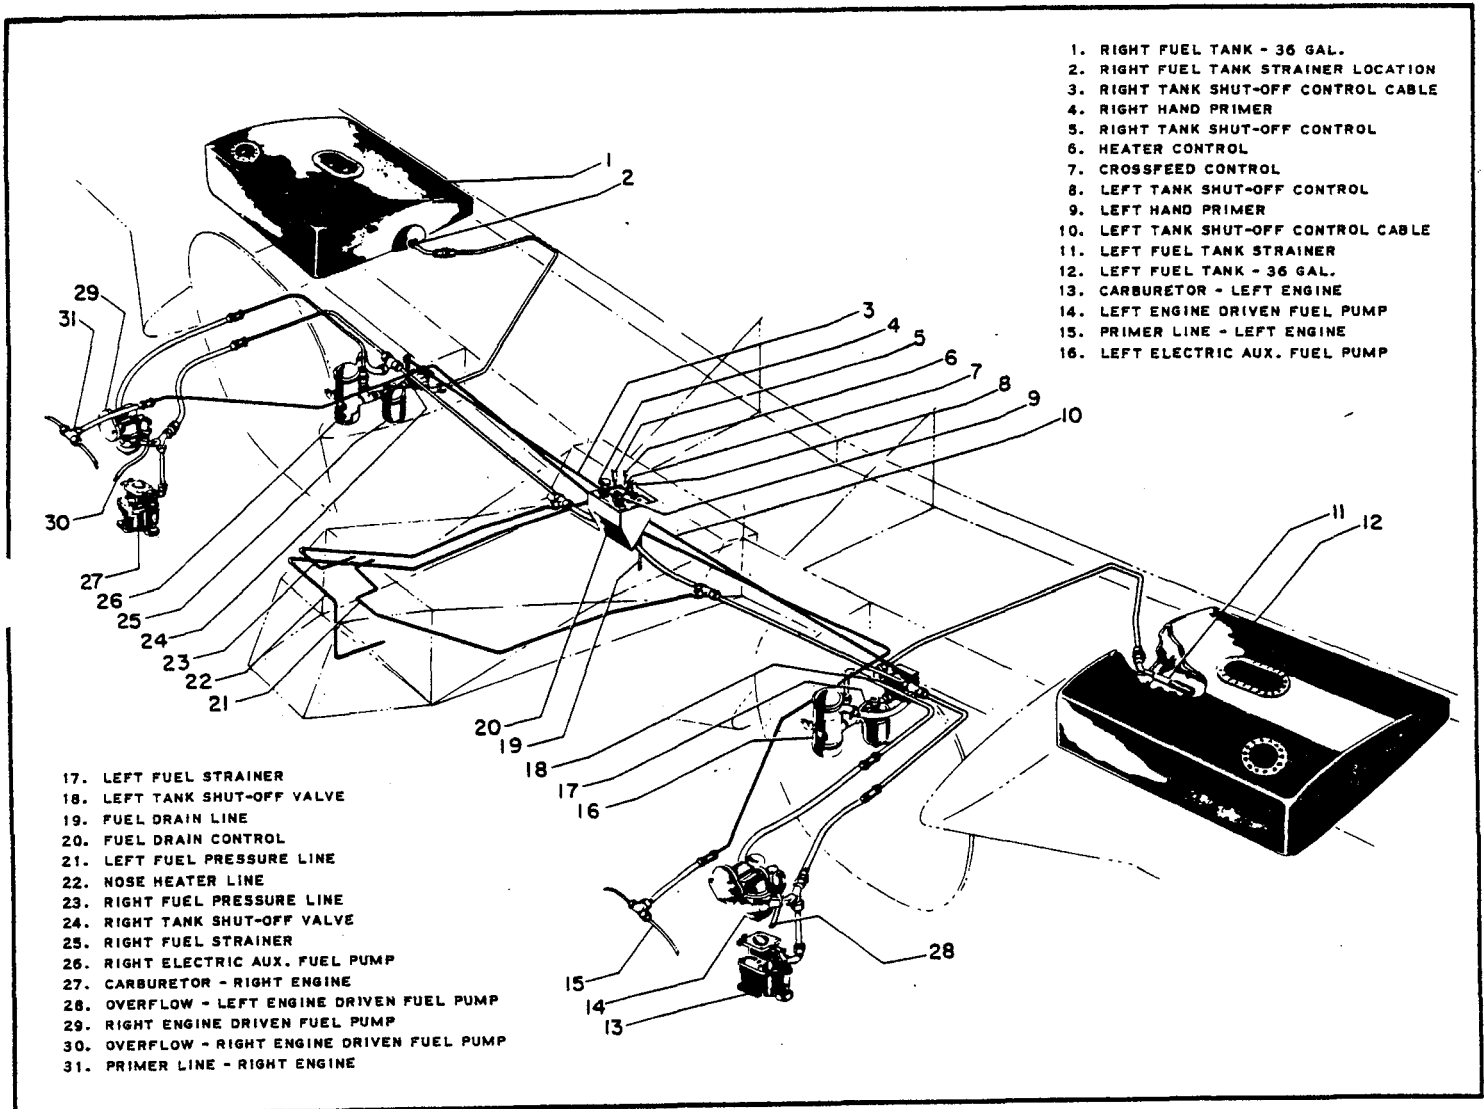
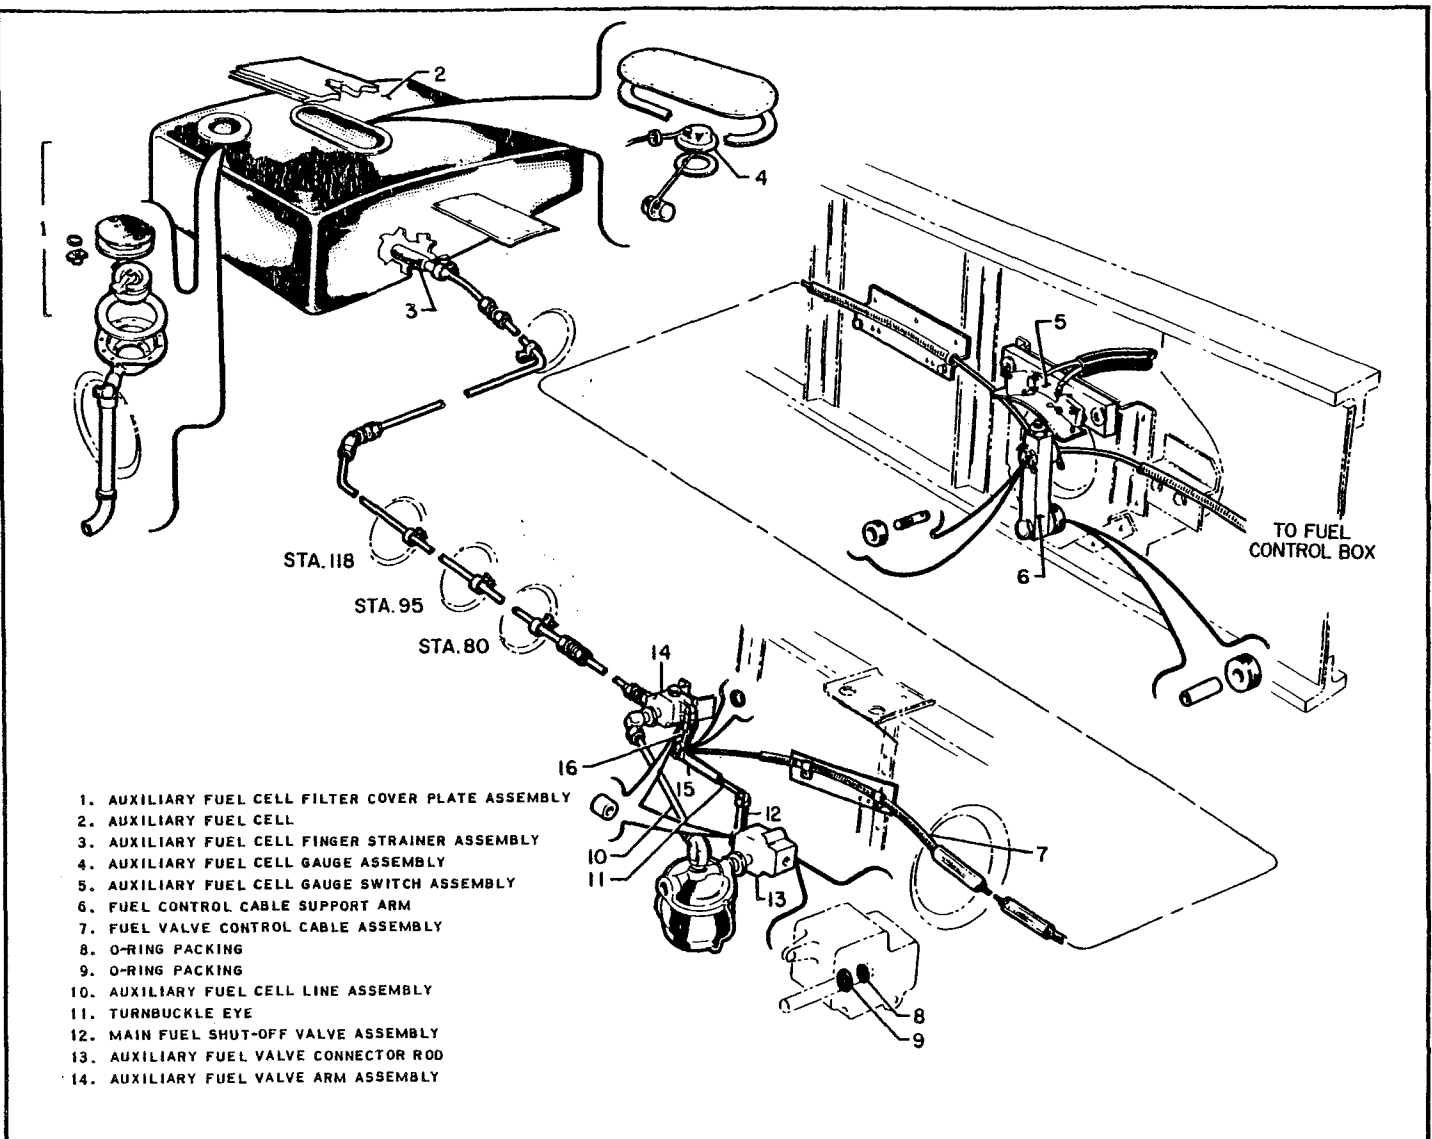
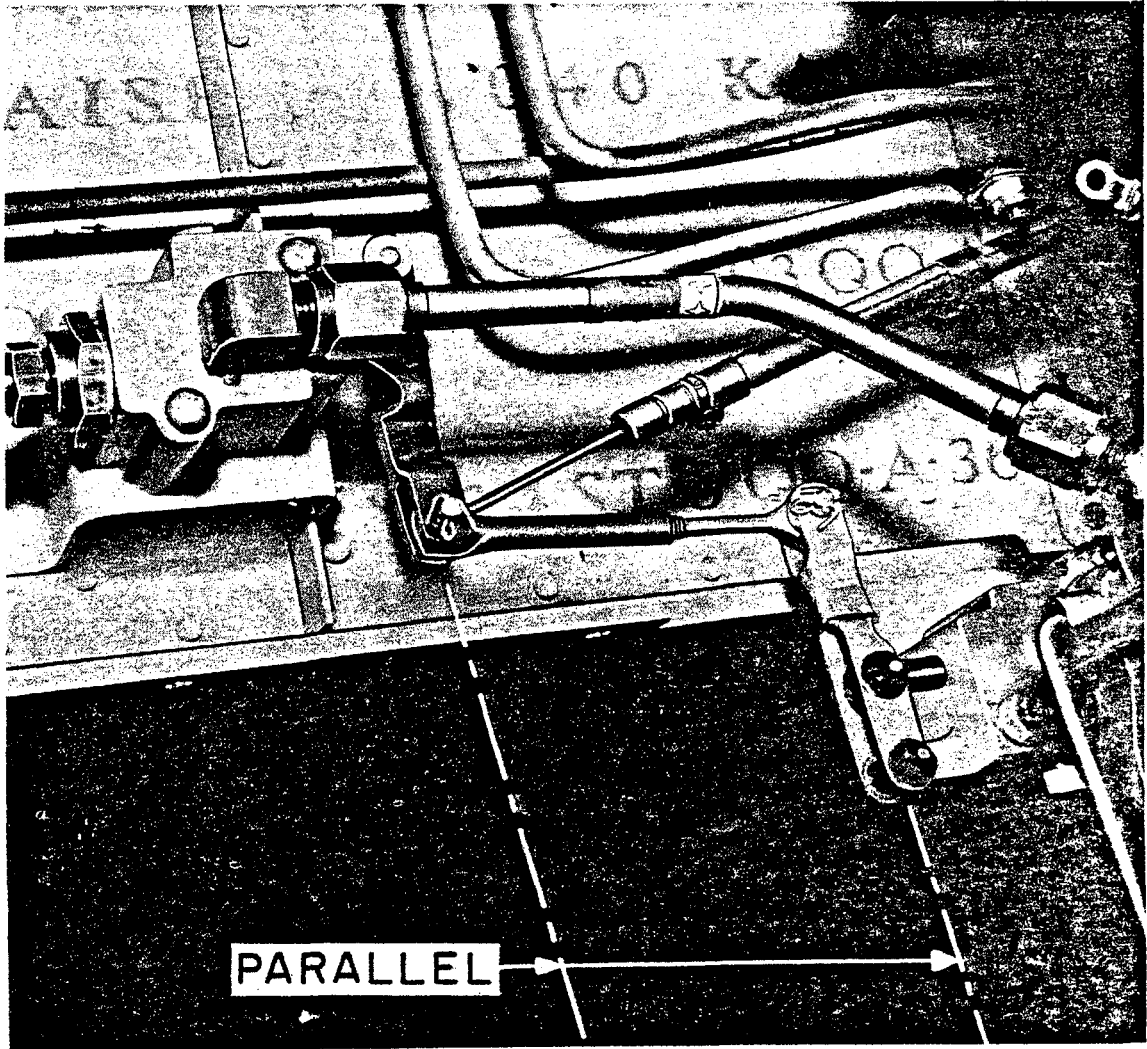

Figure 9-1. Main Fuel System
Figure 9-2. Auxiliary Fuel System
Figure 9-3. Parallel Relation of the Fuel Valve Control and Auxiliary Fuel Valve Arm Assemblies in the "OFF" Position
9-2. The Apache fuel system installation (Figure 9-1) includes an auxiliary system. Because of this, an auxiliary fuel system illustration (Figure 9-2), and facts pertinent to the system, are presented in this section with the main system data. To secure a complete auxiliary fuel system for an aircraft where such a system does not exist, contact your distributor and request Kit No. 754 058. This item is complete in materials and instructions for obtaining a proper installation. Recent manufacture provides drilled attaching points whether the system is incorporated or not. In these instances, some of the installation procedures can obviously be ignored. Troubles peculiar to the Apache fuel system are listed in troubleshooting Table IX-I, along with probable causes and remedies.
9-5. MAIN FUEL SYSTEM. Refer to Figure 9-1 for the layout and relationship of the various fuel system components. Replace a fuel cell in accordance with the instructions of paragraphs 9-10 and 9-17.
9-6. AUXILIARY FUEL SYSTEM. The items comprising the auxiliary fuel system are shown in Figure 9-2. Refer to this illustration as a guide for removal and installation. In addition, refer to paragraph 9-7 for general practices regarding fuel cells.
- b. Observe the fuel valve control arm assembly (12, Figure 9-2) and the auxiliary fuel valve arm assembly (16), noting if they are parallel to each other. (Refer to Figure 9-3.)
In addition to being parallel to each other, the arms must also be parallel to the facing surfaces of the bodies of the fuel shut-off valve assemblies (13-14, Figure 9-2).
d. Note the relation of the fuel valve control arm assembly with respect to the properly adjusted auxiliary fuel valve arm assembly. If it is not parallel to the latter, remove the cotter pin, pin, bushing and washer which secure the eye (11, Figure 9-2) to the arm. Turn the eye in whichever direction will make the auxiliary valve arm parallel to the main valve arm. Reconnect the eye to the main arm, placing the head of the pin forward and the washer between the bushing and the forward leg of the main valve arm yoke.
d. Start the electric auxiliary fuel pumps (16 and 26, Figure 9-1) and observe the hoses for indications of fuel. If the valves are functioning properly, there will be no flow.